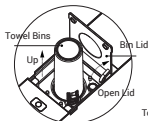

Figure 2
1. (Figure 2) Open the bin cover and lift the towel bucket upward.